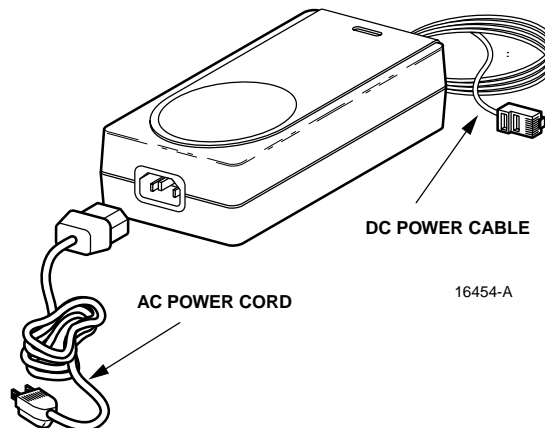

Figure 17. AC/DC Converter Installation
1. Locate the DC power cable that is attached to the AC/DC converter as shown in Figure 17.
4. Connect the receptacle end of the power cord to the AC connector on the AC/DC converter (see Figure 17).